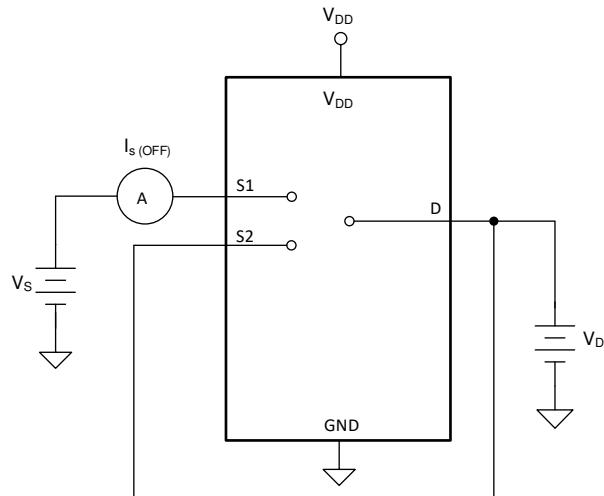

**図 6-1. On-Resistance Measurement Setup**
The on-resistance of a device is the ohmic resistance between the source (Sx) and drain (D) pins of the device. The on-resistance varies with input voltage and supply voltage. The symbol  $R_{ON}$  is used to denote on-resistance. The measurement setup used to measure  $R_{ON}$  is shown in 図 6-1. Voltage (V) and current ( $I_{SD}$ ) are measured using this setup, and  $R_{ON}$  is computed with  $R_{ON} = V / I_{SD}$ :